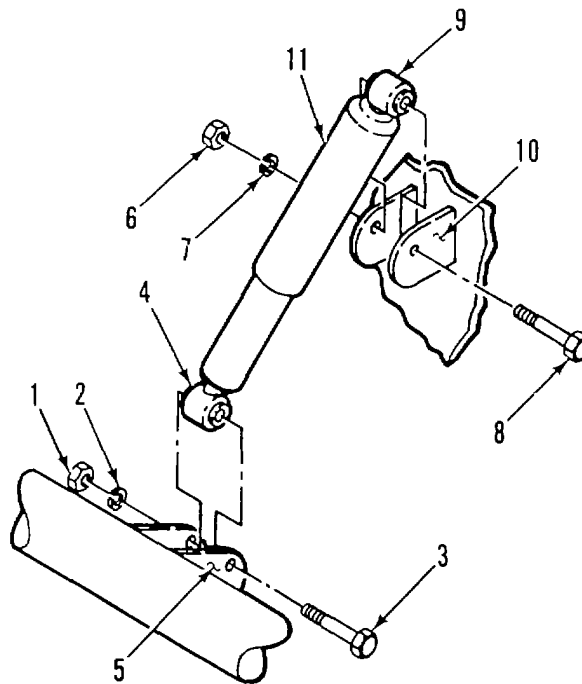

Figure 2-51. Shock Absorbers
a. REMOVE. (Figure 2-51)
- (1) Using trailer jacks, support trailer and remove tension from shock absorbers.
- (2) Remove nut (1), lockwasher (2), and bolt (3) holding shock absorber lower end (4) to lower mount (5) at axle.
- (3) Remove nut (6), lockwasher (7), and bolt (8) holding shock absorber upper end (9) to upper mount (10) on trailer chassis.
- (4) Remove shock absorber (11).